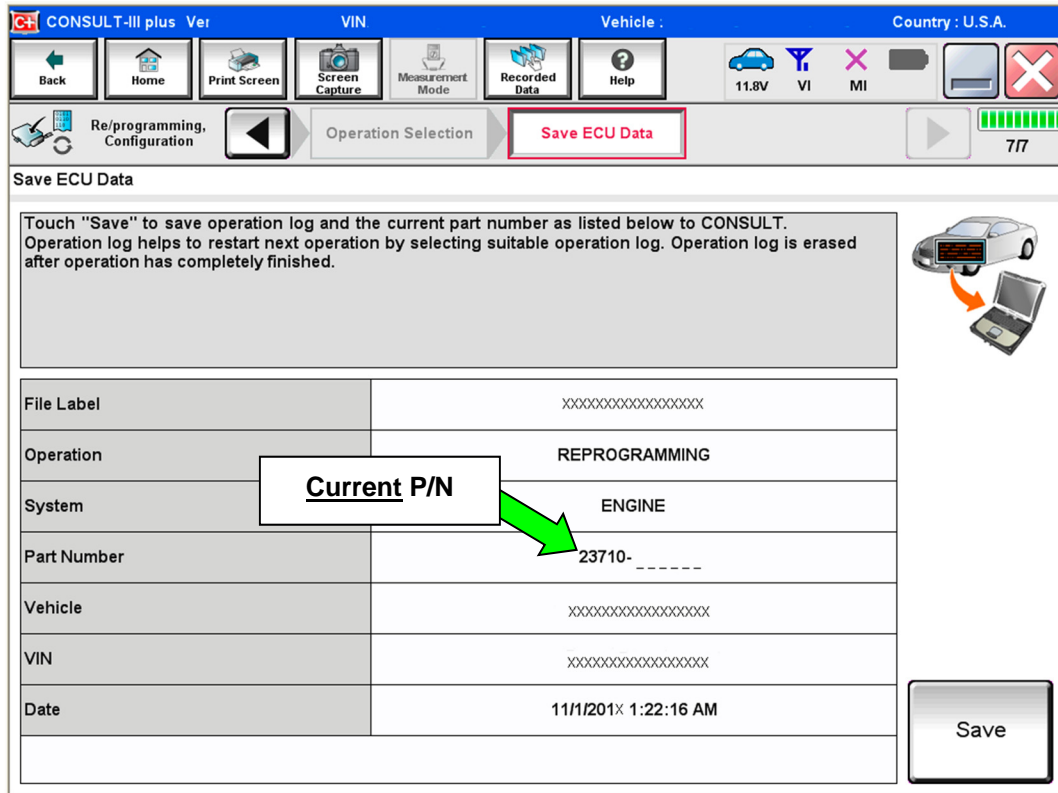

Figure 3
7. Follow the C-III plus on-screen instructions and navigate to the screen shown in Figure 3 on page 5.
8. When you get to the screen shown in Figure 3, confirm this bulletin applies as follows: